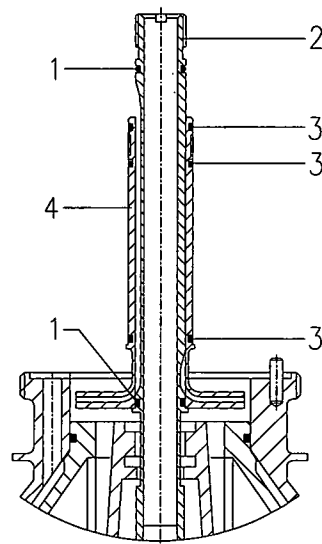
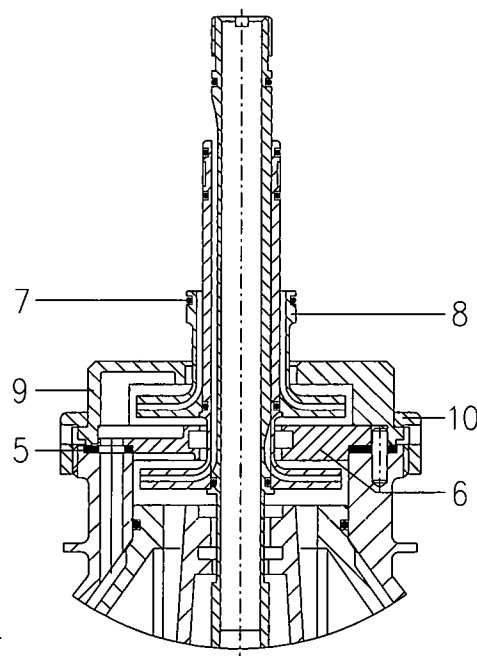
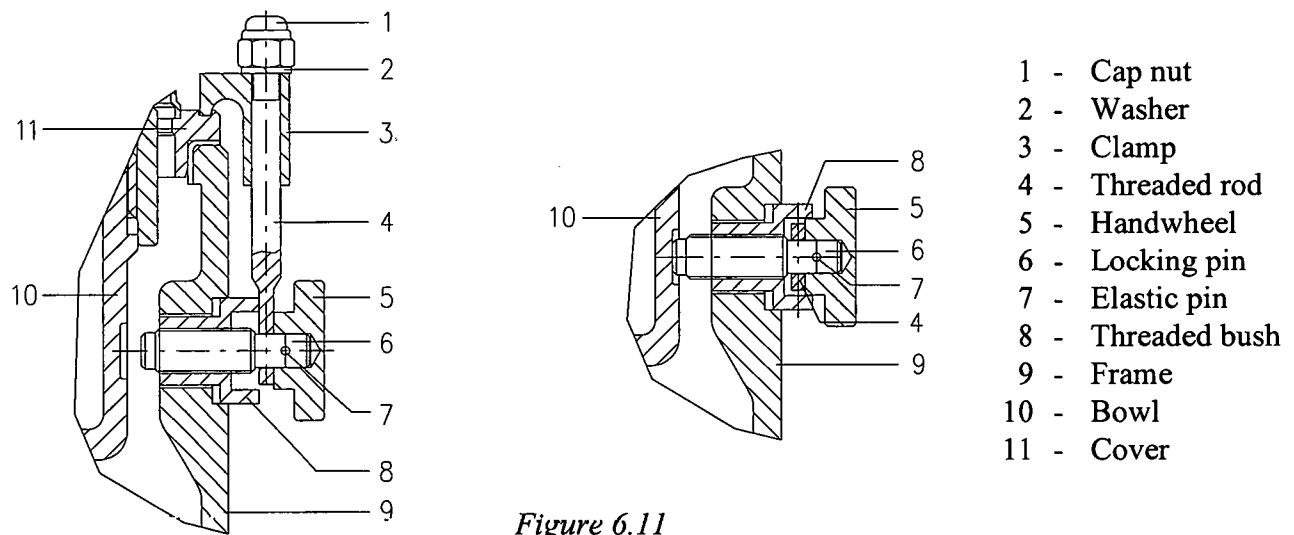
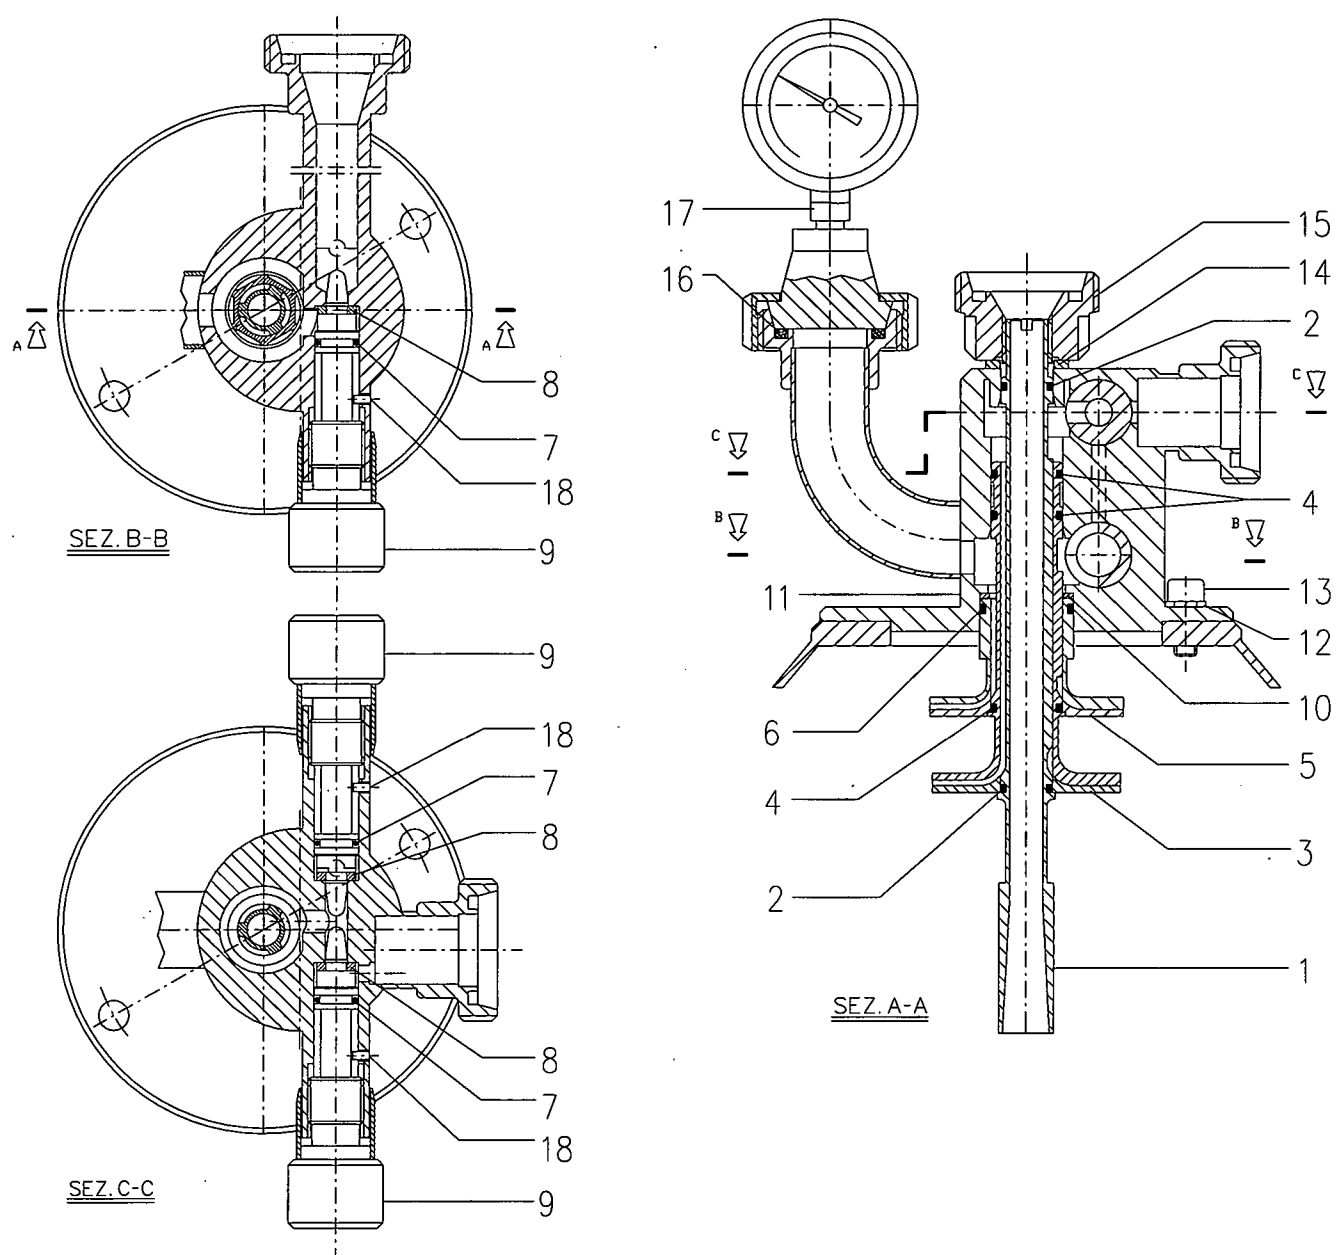

Figure 6.9
Figure 6.10
Figure 6.11
Figure 6.12
- 13) After carefully cleaning the groove, insert the **OR gaskets** (fig. 6.9 - part 1) on **feeding pipe** (2) and place it down.
- 14) Apply the three **OR gaskets** (3) in the **cream centripetal pump** (4), and insert it on feeding pipe.
- 15) After carefully cleaning the suitable seat, apply the **gasket of dividing disk** (fig. 6.10 - part 5) on bowl hood top, checking that the pin on the bowl hood correctly enter in the suitable hole on the gasket.
- 16) Apply the **dividing disk** (6) aligning the "0" with the "0" of the bowl hood.
- 17) Apply the **dividing disk** (6) aligning the **OR gasket** (7) in the **skim centripetal pump** (8), and insert it on feeding pipe.
- 18) Place the **finned cover** (9), and take care that the "0" marks are aligned.
- 19) Using the spanner (09.060.0) and the mallet (09.030.0), screw (left-hand thread) the **small lock ring** (10).
- 20) Unscrew the locking pins (fig. 6.11), by turning anticlockwise the handwheels (5).
- 22) Place the cover on the frame, paying attention to not damage threads on feeding pipe, and fix it down tightly by suitable blockings (fig. 6.11). Proceed as follows:
- Lay the clamp (3) to the cover (11) and fix it down by screwing the cap nut (1).
Proceed according with the following procedure (fig. 6.12):
Block the shutter screwing the appropriate screw 4x6 (18 fig. 6.12).
The correct position of pumps is shown by fig. 6.10; the pumps are in the middle of the corresponding chambers of the bowl. This position is obtained by inserting a few spacers (10) - fig. 6.12 between the centripetal pump (5) and the inlet-outlet flow unit body (11). The number and thickness of spacers may vary only after the replacement of some parts of the vertical shaft unit (Tab. 06) and/or of the bowl (Tab. 04) and/or of the inlet-outlet flow unit (Tab. 05). In this case it is advisable to vary corresponding number and thickness of spacers indicated on technical card § 3.3. The total thickness of spacers is determined by the following relation:
Proceed in inverse order than assembly (see Fig. 6.12).
- loosen the cap nuts (1 - fig. 6.11) of the blocking elements;
- remove the clamp (3 - fig. 6.11). This allows the threaded rod to rotate and assume the horizontal position;
- take out the cover (11 - fig. 6.11).
- 2) Screw the **locking pins** to prevent bowl rotation (fig. 6.11). To do this:
- screw the first locking pin (6), by turning clockwise the handwheel (5). It must fit the circular groove on the bowl body. Do not force the locking;
- 3) By the spanner (09.060.0) and the mallet (09.030.0), unscrew the **small lock ring** (10 - fig. 6.10).
- 4) Remove the **finned cover** (9 - fig. 6.10).
- 5) Take out the **skim pump** (8 - fig. 6.10).
- 6) Remove the **dividing disk** and the **drilled gasket of the dividing disk** (6 and 5 - fig. 6.10).
- 7) Extract the **feeding pipe** and the **cream pump** (2 and 4 - fig. 6.9).
- 14) Unscrew the locking pins (6 - fig. 6.11), by turning them anticlockwise.